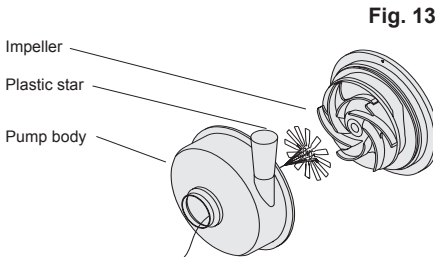
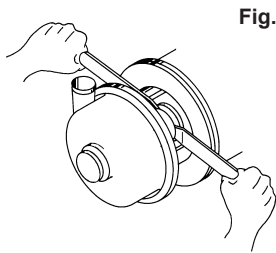

Fig. 13
Fig. 14
13. Lay the plastic star against the impeller (fig. 13).
14. Fit the pump body (item 1a,1b) with the clamp ring (item 9a).
15. Push the shaft (item 11) forward until the impeller (pos 4) is touching the plastic star (fig. 14).